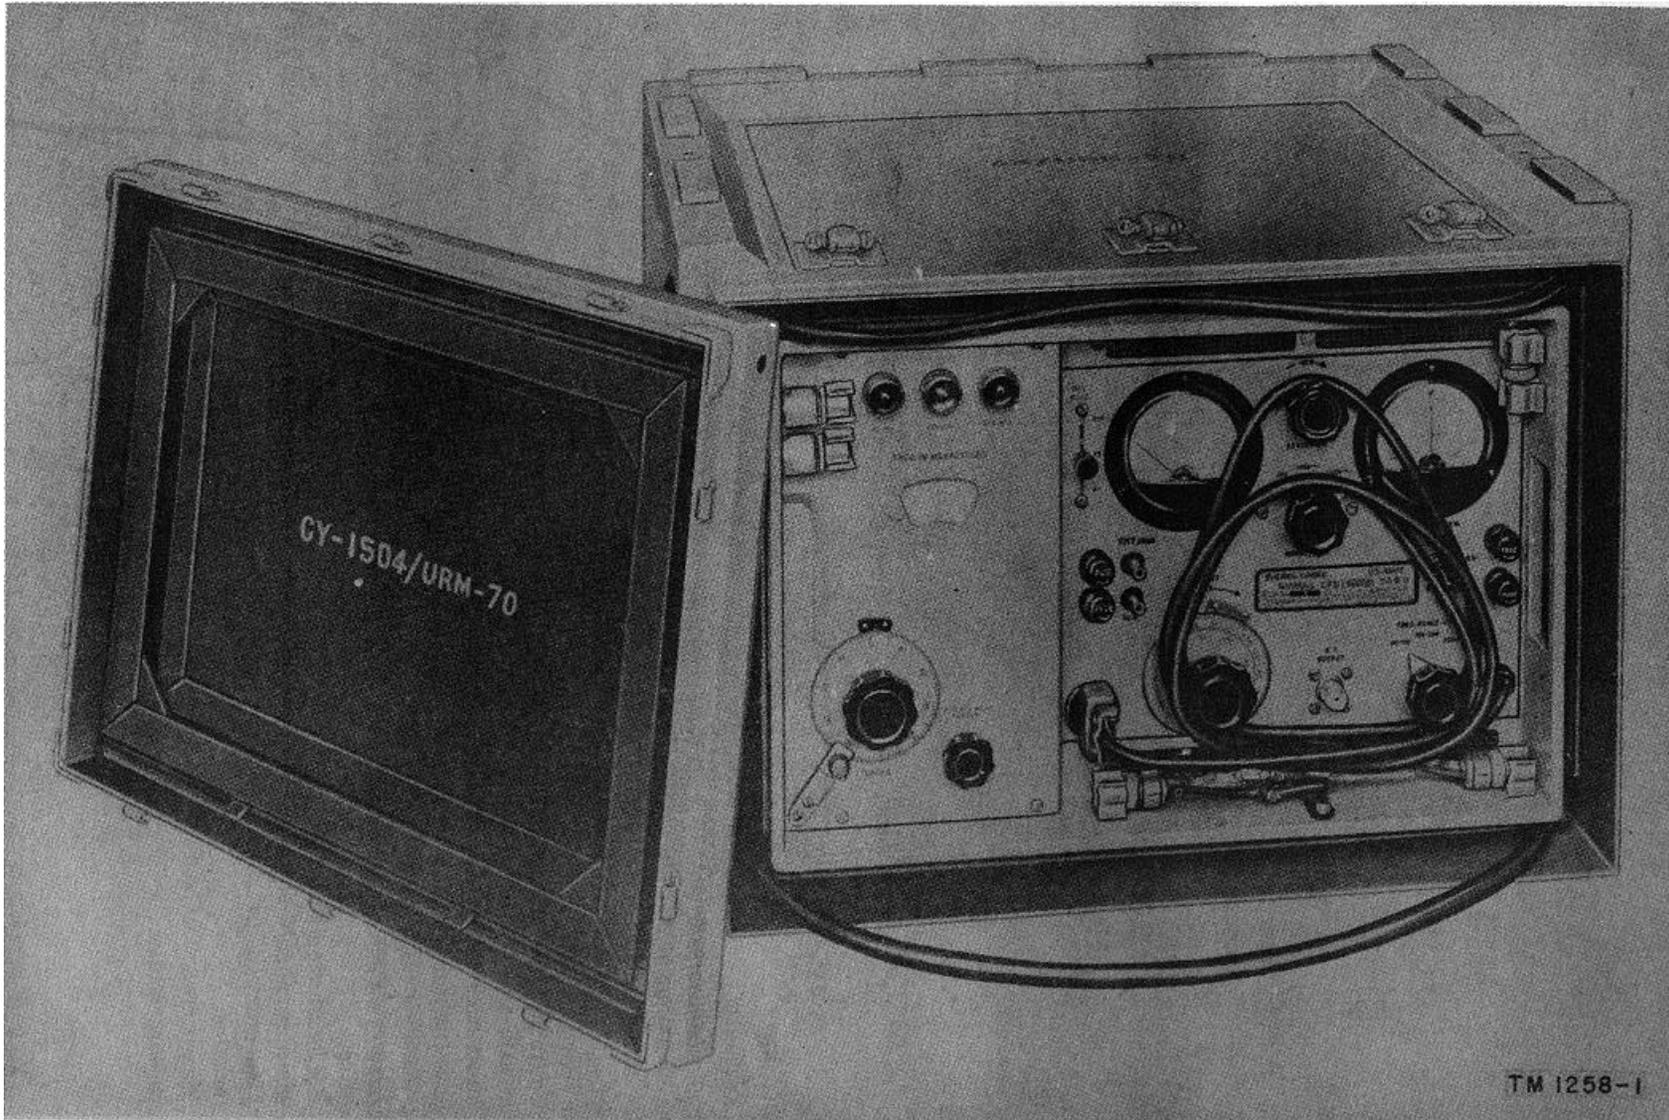
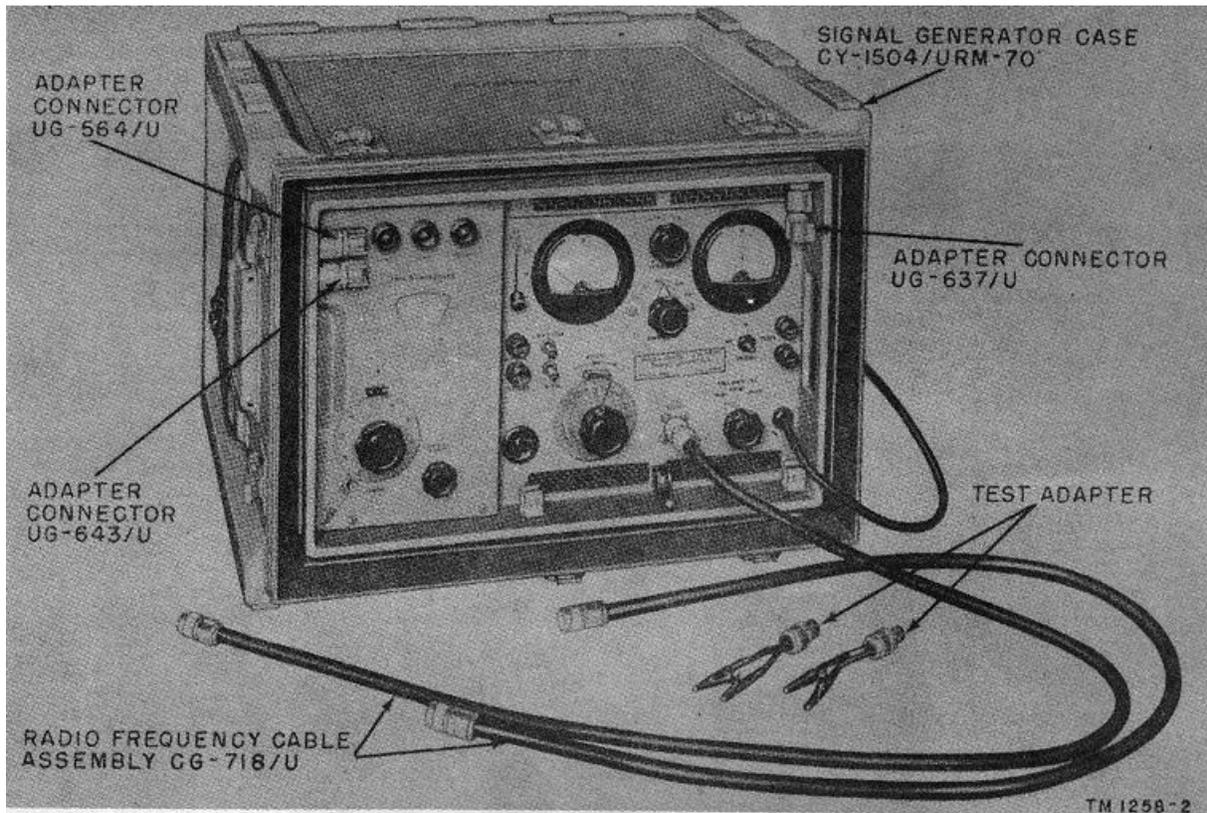

Figure 1. Signal Generator AN/URM-70.
Figure 2. Signal Generator AN/URM-70, with cables and adapters.
a This manual cover Signal Generator AN/URM-70 (fig. 1). Instructions are given for its installation, operation, repair, and maintenance. In addition to these instructions, there is a chapter devoted to its circuit theory.
a. Signal Generator AN/URM-70 consists of Signal Generator SG-3/U shock-mounted in a transit case (fig. 1). All cables, connections, and controls required are available at the front panel (fig. 2) of the signal generator. The two frontpanel meters are an output level meter and an fm deviation meter. The signal generator contains a 17-tube circuit that provides an fm or continuouswave (cw) test signal within the range of 50 to 400 mc. The front-panel indicator lamps indicate the rf frequency ranges, green, 50-100 mc; amber, 100-200 mc; and blue, 200-400 mc. The FREQ. RANGE-MC selector determines the rf band used.
(fig. 2)